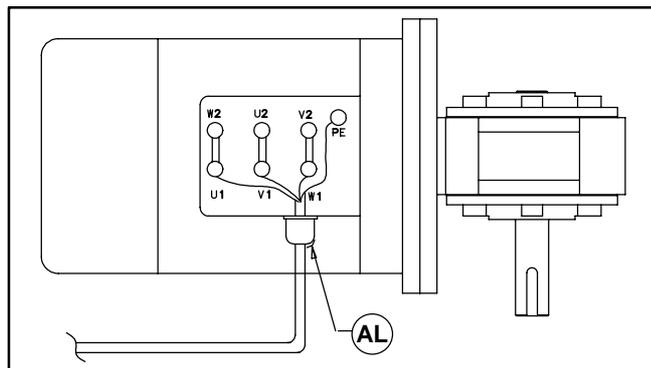

Figure 22
- b. Record wire colors on terminals U1, V1, W1 & PE (Figure 22). Loosen terminals U1, V1, W1 & PE and remove wires.
- c. Loosen cord grip (AL of Figure 22) and remove cord.